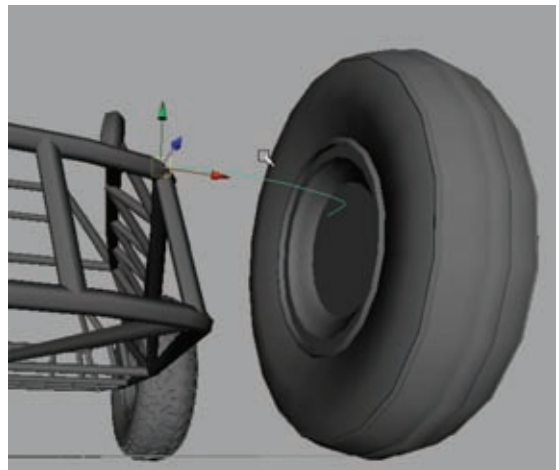

Figure 4.21
26. Now that you have the two wheels created, you can begin attaching them to the frame. In the Top view, use the CV Curve tool to draw a curve from the front corner of the roll cage to the wheel. When the curve meets the wheel, draw a point above (from your vantage point in the Top view) the last, making the curve angle abruptly toward the rear of the wheel. Be sure to position the curve on the wheel with its base touching the frame and its curved end placed flush against the upper part of the wheel's inner hubcap. You may need to adjust its control vertices to make the curve fit correctly (Figure 4.21).